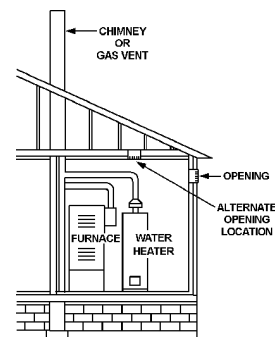

FIGURE 8A.
5. Alternatively a single permanent opening may be used when communicating directly with the outdoors, or with spaces that freely communicate with the outdoors. The opening shall have a minimum free area of 1 square inch per 3,000 BTU per hour (8.3 cm²/kW) of total input rating of all equipment in enclosure. See Figure 8A.